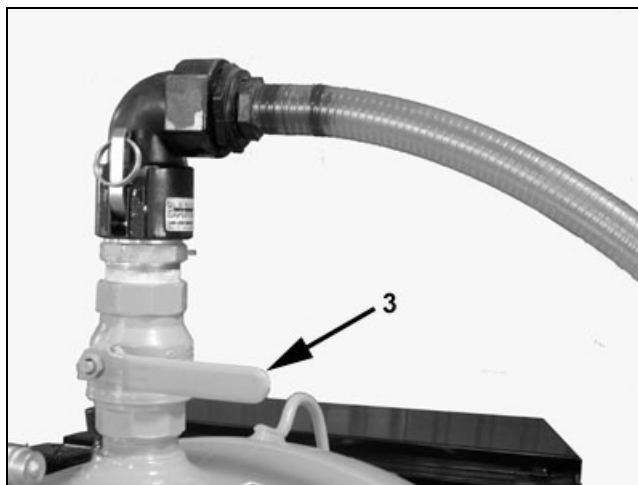

Figure 11 - New Product Fill Valve
7. Open the new product fill nozzle ball valve (3). See Figure 11 (valve shown in the closed position).